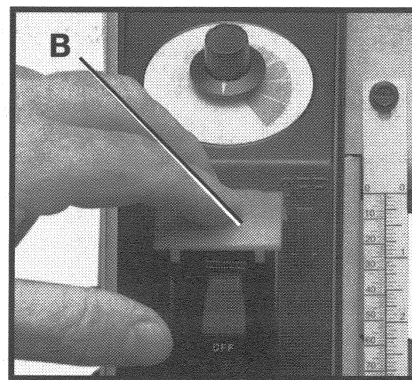

Fig. 13
2. To turn the drum "OFF", push down on switch shield (B) Fig. 13. **NOTE:** This switch only controls the drum. See "TABLE FEED/SPEED SWITCH" for feed table switch instructions.